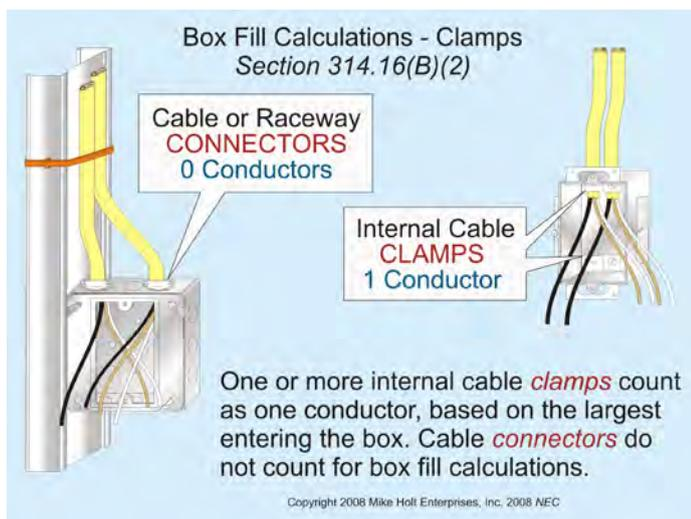

Figure 314-6
(2) Cable Clamp Volume. One or more internal cable clamps count as a single conductor volume in accordance with Table 314.16(B), based on the largest conductor that enters the box. Cable connectors that have their clamping mechanism outside of the box aren't counted. Figure 314-6